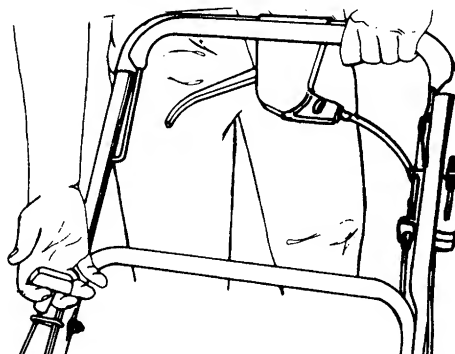

FIGURE 19.
3. Standing behind the unit, depress the blade control handle and hold it against the upper handle as shown. See figure 19.